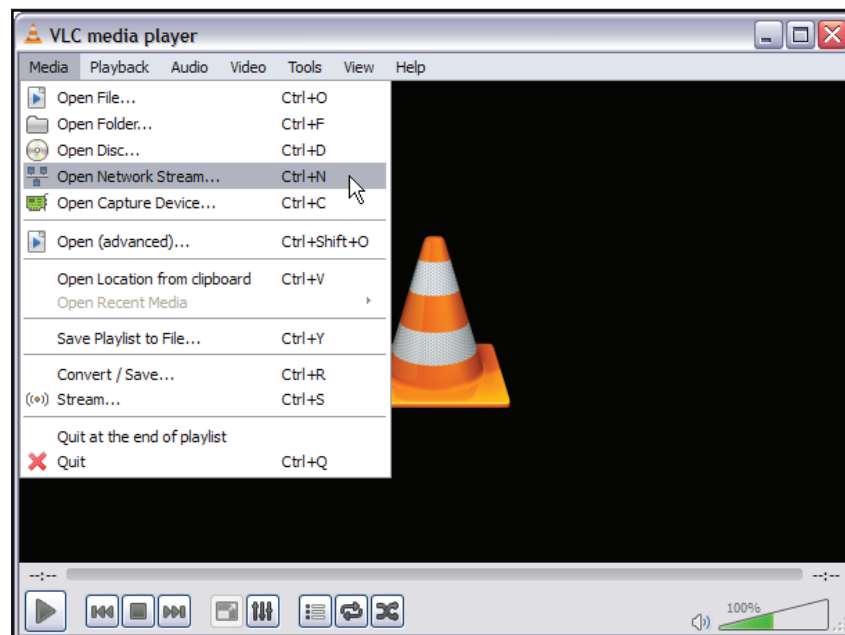

Figure 79. VLC Media Player — Open a Network Stream
4. The media player opens. Select **Media>Open Network Stream** (see figure 79).
- The **Open Network Media** dialog box opens. Enter the stream URL that was noted in step 2 (see figure 79 on the previous page) in the **Please enter a network URL:** field (A).